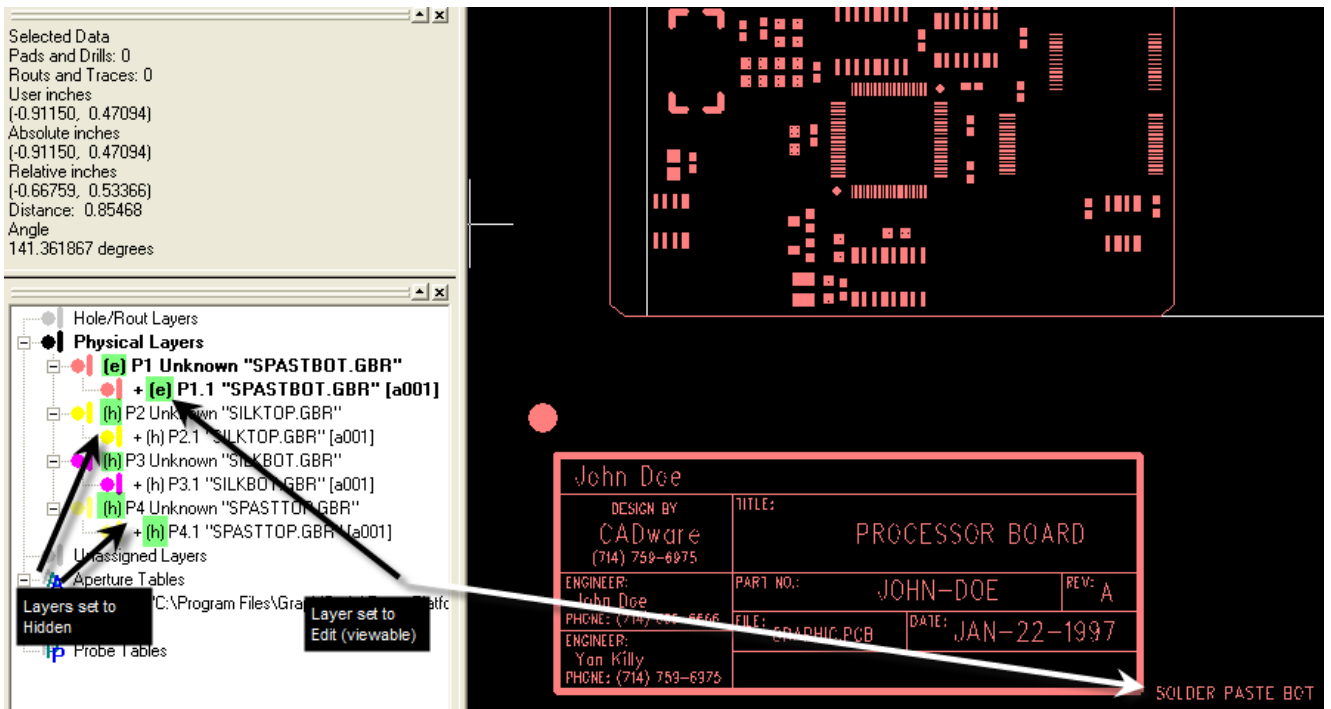

Figure 22
2. Assign layer name, type, side and other layer parameters by double-clicking on the main Physical Layer (e.g. P1) to expand the GC-Explorer layer list, then change the layer properties accordingly – See Figure 22: